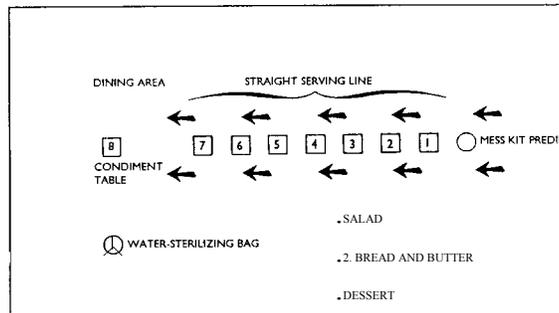

Figure 3-19. Serving lines when attack is unlikely
- (1) Place serving tables about 3 feet apart.
- (2) Set up a one way, straight serving line. See Figure 3-19.